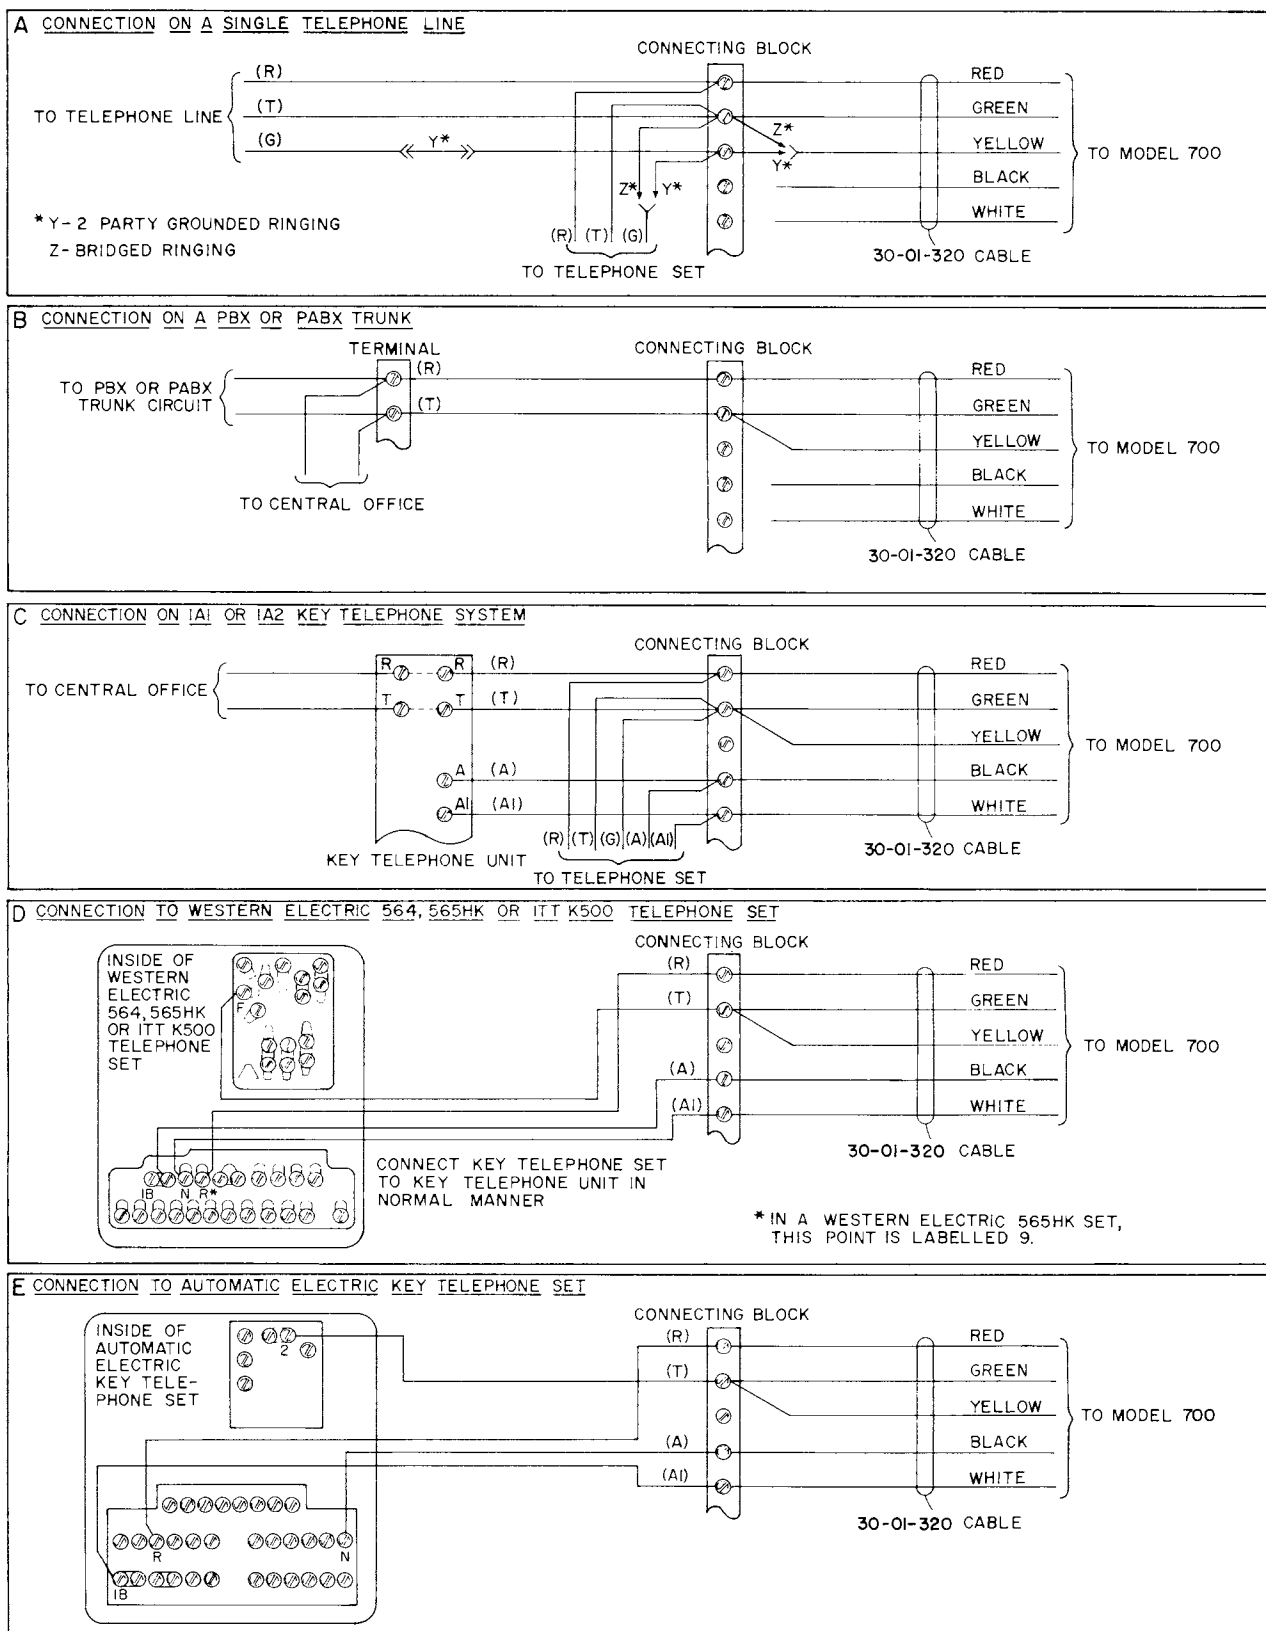

FIGURE 3 CONNECTION TO TELEPHONE LINE
- a. Connect as shown in Fig. 3-A for use with a single telephone set. The telephone set may be connected for single party (metallic ringing) service, for two-party (grounded ringing) service, or to a private exchange line.
- b. Connect as shown in Fig. 3-B to answer a PBX or PABX trunk.
- c. Connect as shown in Fig. 3-C to answer one particular line of 1A1 or 1A2 key telephone system.
- d. The connection shown in Fig. 3-D allows a subscriber with a key telephone set to select the line to be answered. The Model 700 will be connected to the line associated with whichever button is depressed on the key telephone. The Model 700 may be connected in this manner to a 500-series key telephone set.
- e. Connect as shown in Fig. 3-E for use with any Automatic Electric key telephone set. In this case, the push-buttons on the telephone set will select the line to be answered by the Model 700.